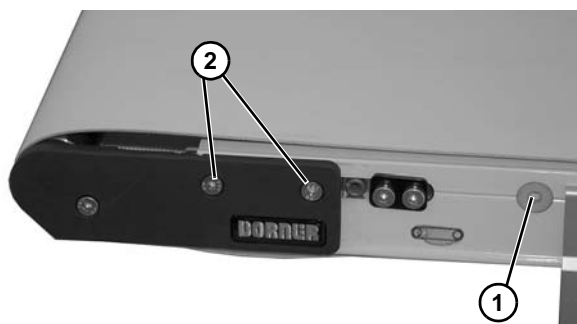

Figure 8
- With a 5 mm hex-key wrench, rotate pinion gear (**Figure 8, item 1**) to tension the conveyor belt. Tighten fastening screws (**Figure 8, item 2**) on both sides of conveyor to 60 in-lb (7 Nm). For proper tensioning, refer to “Conveyor Tension End Adjustment” on page 17.